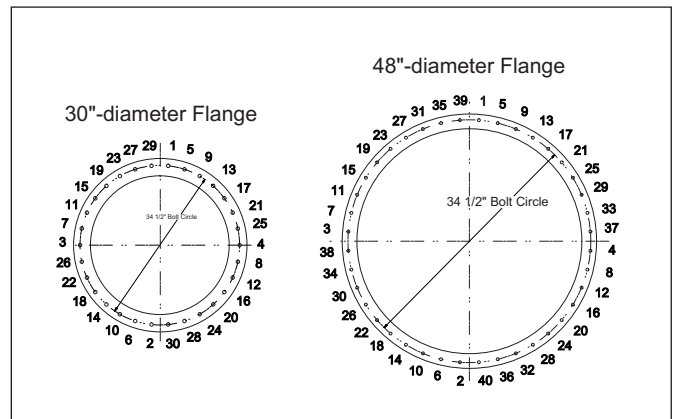

FIGURE 2-2
2.4. Place the gaskets on the flange and the sump, and bolt the sump to the bottom of the tank using the bolting pattern as shown in *FIGURE 2-2*. (A double-gasket system has been supplied for this application.)